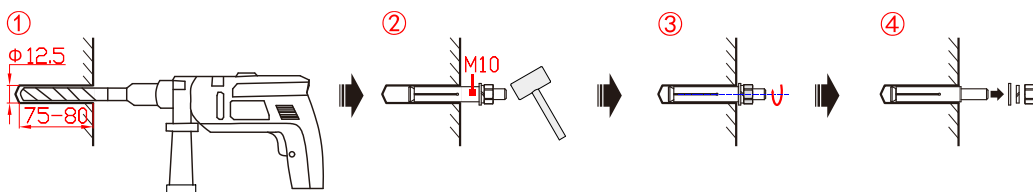

Figure3-19 Install the expansion bolt (unit: mm)
3. Place the battery against the wall, the bottom limit holes of the upper battery pack should match the screw on the top of the below battery pack, as shown in Figure3-19.